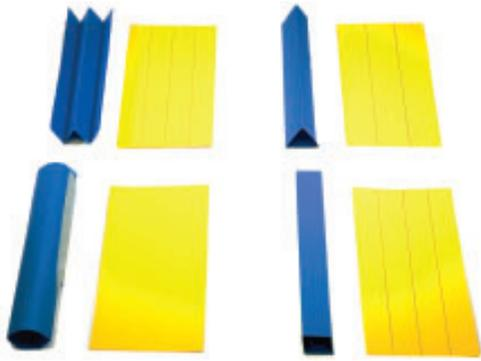

Figure 1 The four beam designs
1. Mark and cut out eight pieces of cardboard, 24 cm long \times 12 cm wide. Draw lines on five of the pieces of cardboard, and fold the cardboard as shown in Figure 1 on the next page. Tape the edges together to close the beam. Make three flat beams, one triangular beam, one cylindrical beam, and two rectangular beams.